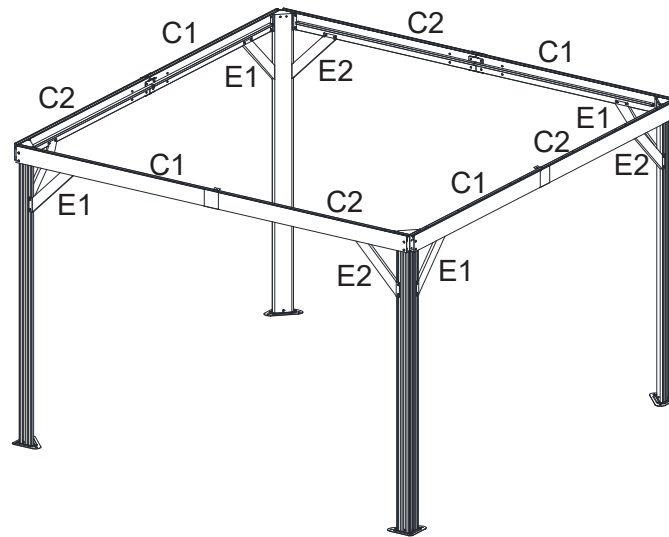

Figure 4-3
4.3. Repeat for all Corner Posts and Lintels. Tighten All Bolts. See Figure 4-3.